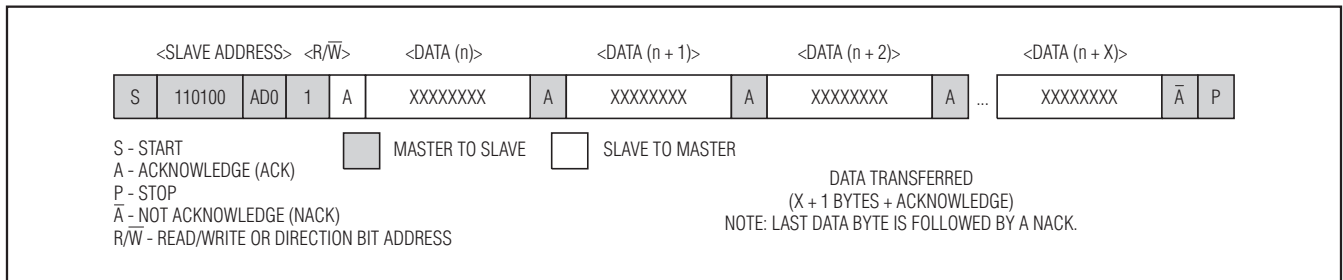

Figure 7. Data Read (from Current Pointer Location)—Slave Transmitter Mode
2) Slave transmitter mode (DS1372 read mode): The first byte is received and handled as in the slave receiver mode. However, in this mode, the direction bit indicates that the transfer direction is reversed. The DS1372 transmits serial data on SDA while the serial clock is input on SCL. START and STOP conditions are recognized as the beginning and end of a serial transfer (see Figure 7). The slave address byte is the first byte received after the master generates the START condition. The slave address byte contains the 7-bit DS1372 address, which is 110100 and ADO. Each slave address is followed by the